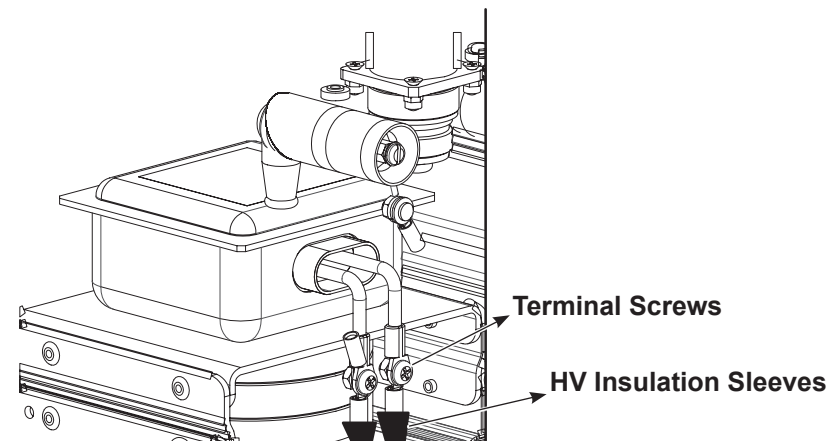

Figure 6-18 Magnetron Removal
2. See Figure 6-18. Cut the four ties securing the black high-voltage (HV) insulation sleeves to the HV cables. Slide the sleeves down to expose the two ring-tongue terminal connections.
2. See Figure 6-18. Cut the four ties securing the black HV insulation sleeves to the HV cables at the magnetron. Slide the sleeves down to expose the ring-tongue terminal connections.
13. See Figure 6-18. Use the screws removed in step 3 to connect the X2 secondary cable to the magnetron F terminal pigtail. Connect the X1 secondary cable and the 20 AWG HV cable with ferrite to the FA terminal pigtail.